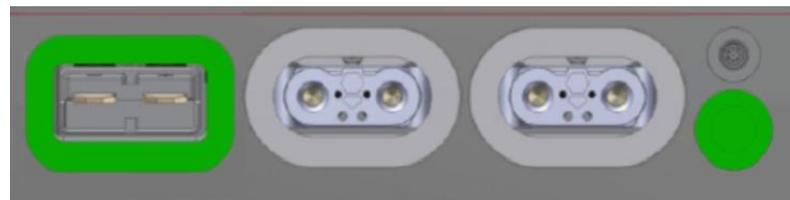

Figure 22: Circular LED and discharge port are illuminated, battery ON is ready for use.
3. If the discharge port is illuminated, the battery is ready for use (Figure 22).
2. If the discharge port is illuminated, the battery is ready for use (Figure 22)